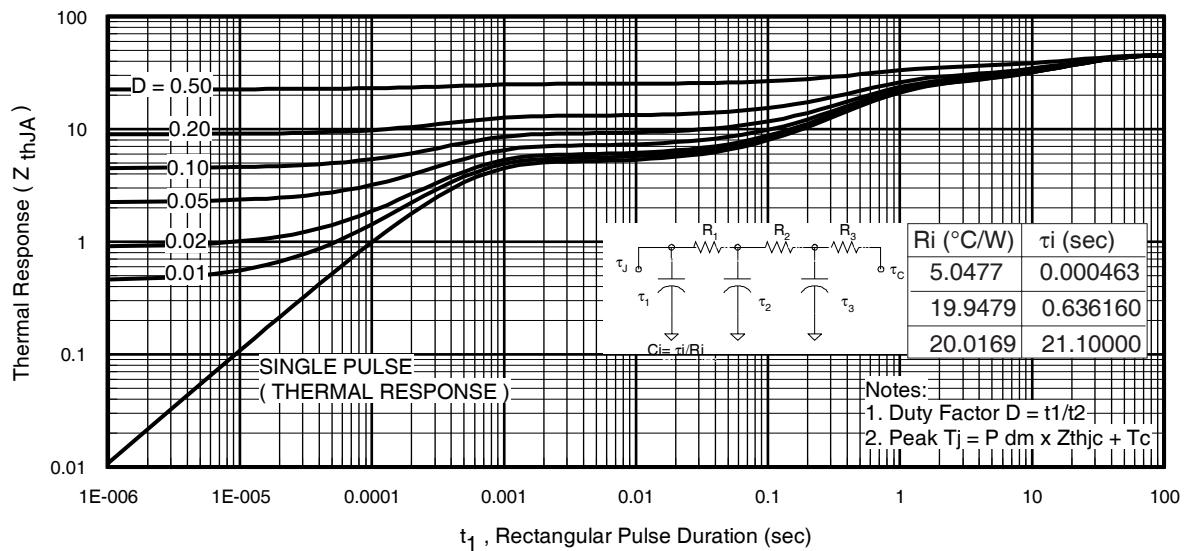
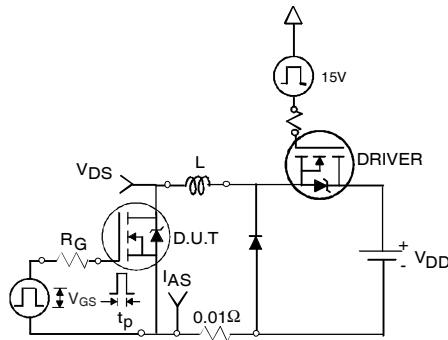

Fig 11. Maximum Effective Transient Thermal Impedance, Junction-to-Ambient
Fig 12a. Unclamped Inductive Test Circuit
- ① Repetitive rating; pulse width limited by max. junction temperature. (See fig. 11).
- ② Limited by T_{Jmax} , starting $T_J = 25^\circ\text{C}$, $L = 2.8\text{mH}$ $R_G = 25\Omega$, $I_{AS} = 3.1\text{A}$, $V_{GS} = 10\text{V}$. Part not recommended for use above this value.
- ③ Pulse width $\leq 1.0\text{ms}$; duty cycle $\leq 2\%$.
- ④ $C_{\text{oss eff.}}$ is a fixed capacitance that gives the same charging time as C_{oss} while V_{DS} is rising from 0 to 80% V_{DSS} .
⑤ Limited by T_{Jmax} , see Fig.12a, 12b, 15, 16 for typical repetitive avalanche performance.
⑥ This value determined from sample failure population. 100% tested to this value in production.
⑦ When mounted on 1 inch square copper board.
⑧ When mounted on FR-4 board using minimum recommended footprint.
3. Equation below based on circuit and waveforms shown in Figures 12a, 12b.
$Z_{thJC}(D, t_{av})$ = Transient thermal resistance, see figure 11)